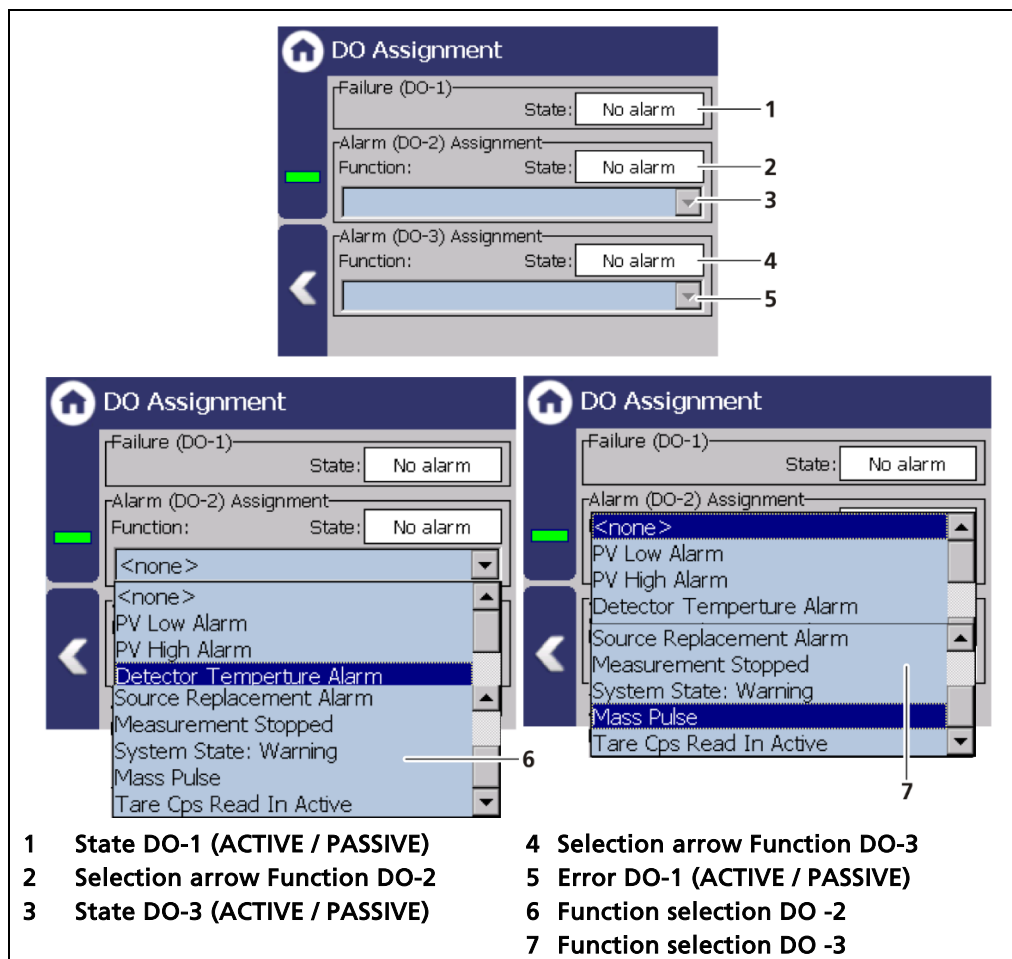

Fig. 119 DO assignment
If, under "Function" (Fig. 119, item 6, item 7) of a digital output the "Upper PV range" or "Lower PV range" is selected, the relay switches.